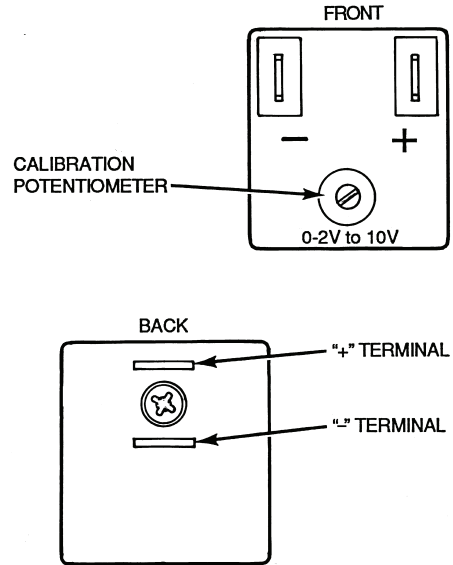

Fig. 17 — Adapter Connections
- On the back of the adapter there are two slots that accept 1/4-in. male quick-connect terminals. See Fig. 17. Using field-supplied wire, connect the + terminal on the back of the adapter to P₁ on the logic module. Connect the - terminal on the back of the adapter to terminal P on the logic module.
ADJUSTING ADAPTER NO. Q769C1007 — The adapter is factory-set to begin modulating the actuator open from the fully closed position at 2.4 vdc and closed from the fully open position at 9.8 vdc, with the calibration potentiometer (Fig. 17) set at the midrange position. The potentiometer can be used to adjust the minimum damper position. Turning the potentiometer counterclockwise increases the damper's minimum position setting; turning the potentiometer clockwise decreases the minimum position setting.